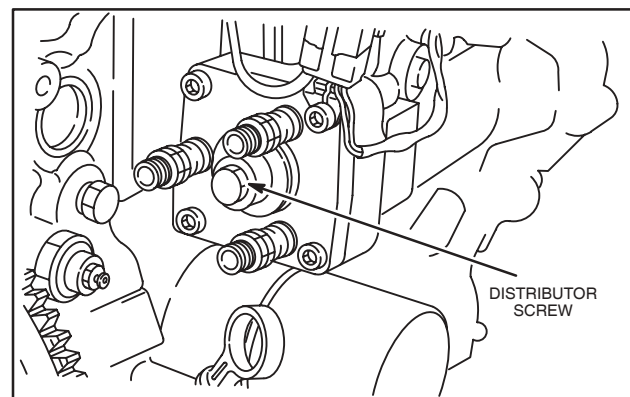

Fig. 11 – Installing Distributor Screw
- Remove timing gage and install distributor screw with new washer, Fig. 11.